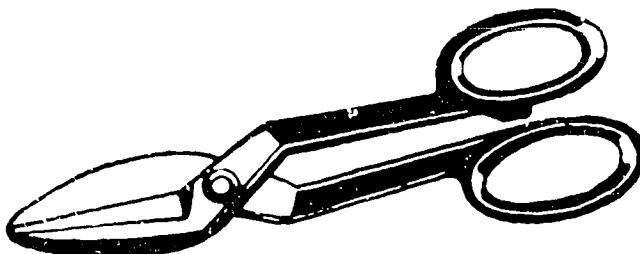

Figure 1-1. Straight snips.
**Straight snips.** Straight snips are designed to cut straight or long curved lines in sheet metal. The straight snips shown in figure 1-1 are available with right-hand cut for right-handed people and with left-hand cut for left-handed people. Use straight snips for cutting sheet metal for such items as pans, rectangular ducts, and other similar jobs.